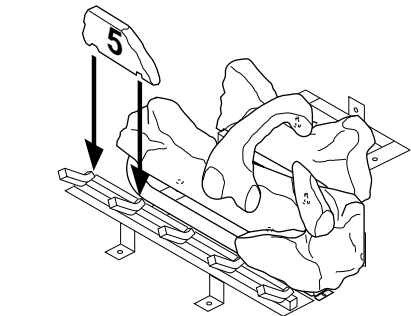

Figure 52 - Installing Log No. 5
5. Place log #5 (small log) onto the front left part of the grate making sure the notches fit over the prongs of the grate. See Figure 52.